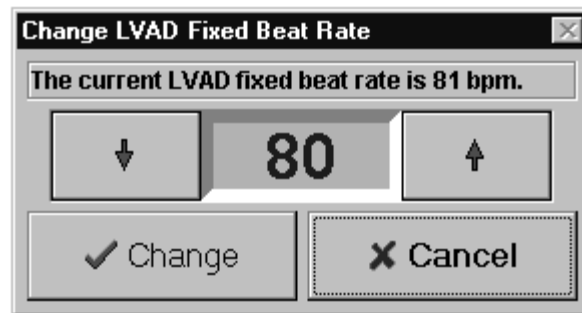

Figure 4.9 HeartTouch Computer "Beat Rate Dialog Box"
- 4.2.23 To change the TLC-II rate, touch **Beat Rate**, and a dialog box appears with arrows allowing the rate to be increased (up arrow) or decreased (down arrow). After choosing the desired rate, touch **Change** to accept and **Yes** to confirm, or **Cancel** to not accept (**Figures 4.9** and **4.10**).